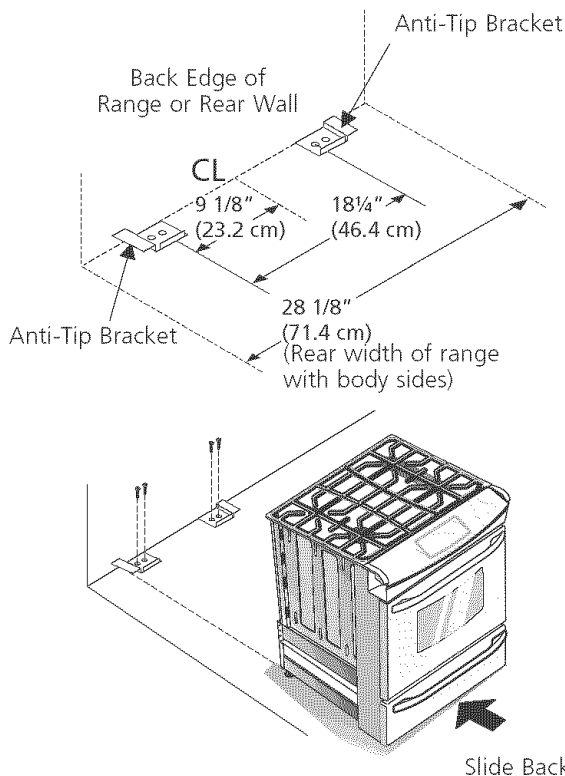

Figure 16
1. Unfold paper template and place it flat on the floor with the back and side edges positioned exactly where the back and sides of range will be located when installed. (Use the diagram below to locate brackets if template is not available (Figure 16)).